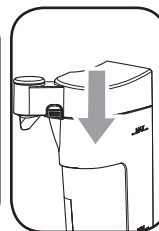

Fig. 3
- 3- Replace the carafe lid and ensure that it is properly fitted (Fig. 3).